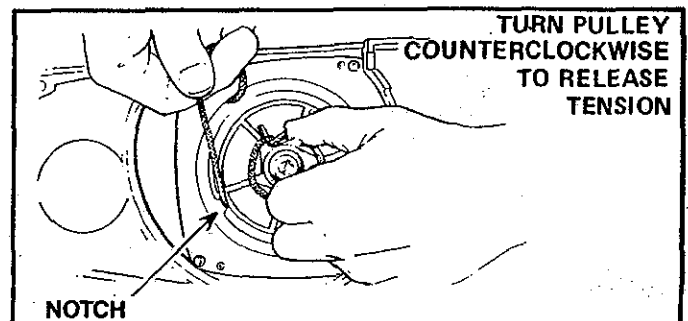

Figure 44
3. If the starter rope is not broken, release the spring tension by pulling about 12 inches of rope from the pulley and catch the rope in the notch as shown. Figure 44.
4. Turn the pulley counterclockwise until the spring tension is released. Figure 44.